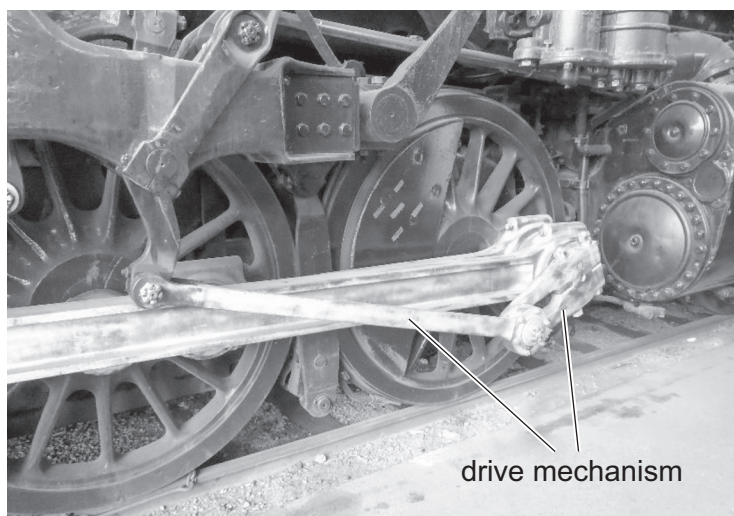

Fig. 5.1
- 5 Fig. 5.1 shows part of the drive mechanism on a steam locomotive.